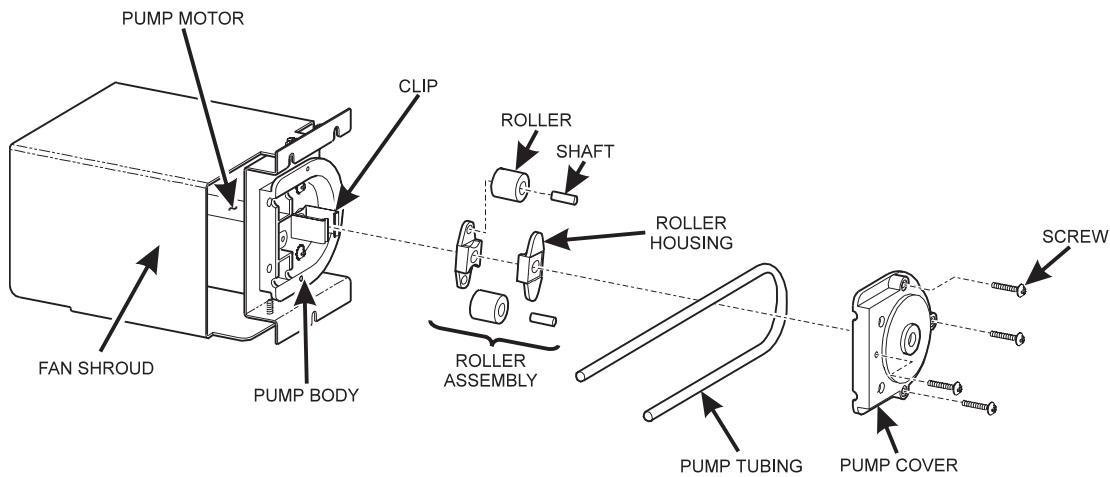

Figure 1
3. Replace the pump and reassemble the roller assembly (See figure 1).